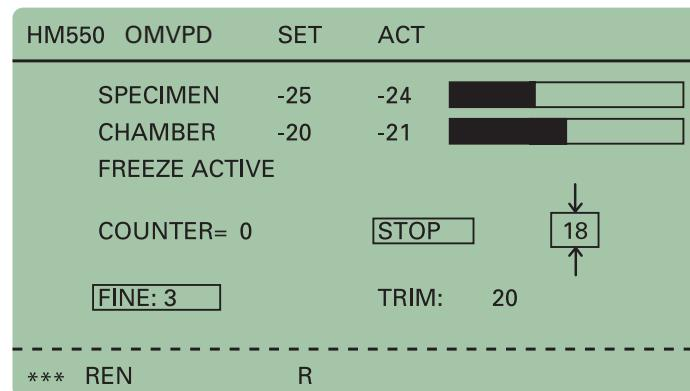

Figure 109. Display: Fast freezing station active.
- To active or deactivate the fast freezing function, press button (fig. 107.2) for 1 sec. (fig. 109).